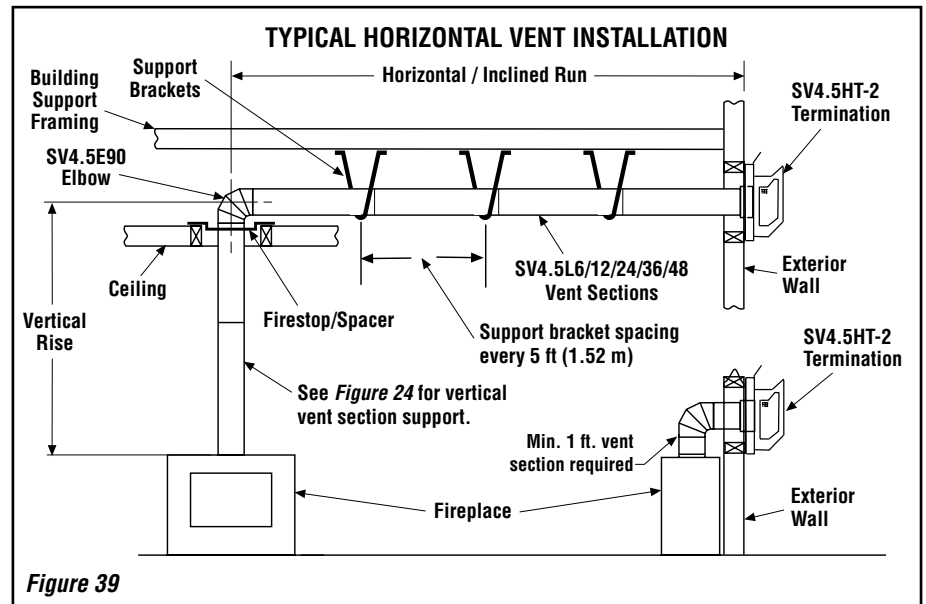

Figure 39
Figure 39 (at right) and Figures 42 to 47 (Pages 22 to 24) and illustrate the various horizontal venting configurations that are possible for use with these appliances. **Secure Vent®** pipe applications are shown in these figures. **Secure Flex®** pipe may also be used. A Horizontal Vent Table summarizes each system's minimum and maximum vertical and horizontal length values that can be used to design and install the vent components in a variety of applications.
I. Continue installation of horizontal/inclined sections. Continue with the installation of the straight vent sections in horizontal/inclined run as described in **Step E**. Install support straps every 5 ft. (1.52 m) along horizontal/inclined vent runs using conventional plumber's tape. See **Figure 39**. **It is very important that the horizontal/inclined run be maintained in a straight (no dips), slightly elevated plane. The recommended incline is approximately 1/4" per foot (20 mm per meter) horizontal, in a direction away from the fireplace.** The rise per foot run ratios that are smaller are acceptable all the way down to at or near level. Use a carpenter's level to measure from a constant surface and adjust the support straps as necessary.